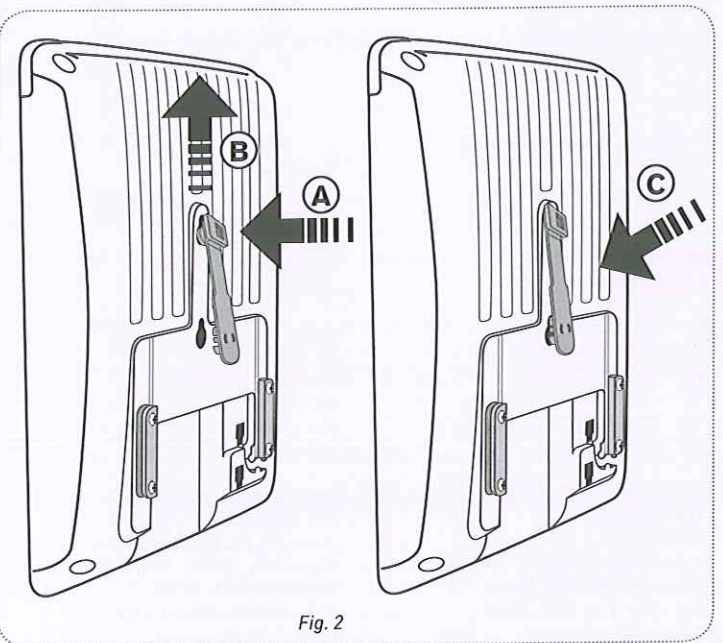

Fig. 2
1. Insert the top cleat on the back of the stop rest into the top hole on the back of your snom 7xx (Fig. 2, step A) and slide it upwards to the top of the narrow end of the hole (Fig. 2, step B).
2. Push the bottom cleat (labeled ② on the front) down into the wide part of the bottom hole (Fig. 2, step C). Do not use force! If the top cleat has been properly inserted and pushed to the top of the hole, the plugs of the bottom cleat fit in the hole snugly.